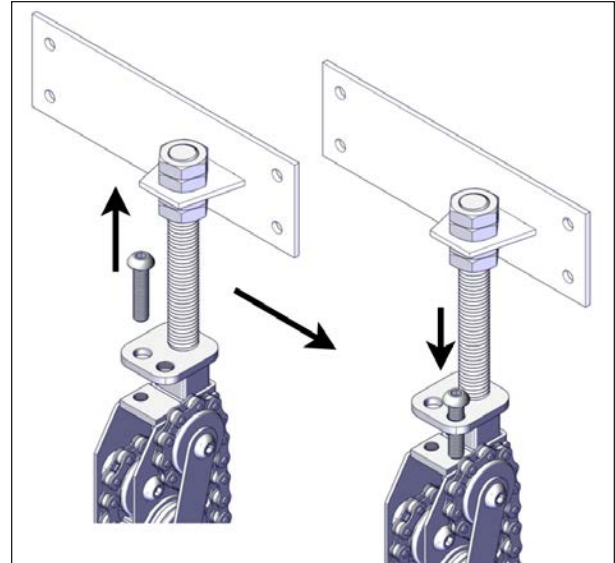

FIGURE 81: JACK LOCKING SCREW REMOVAL
7. Once the U-frames are installed, the jack lock screw located at the top of non-motor side jacks can now be unlocked safely. Remove the M8 x 35 mm locking screw and reinstall it in the hole next to it so you don't lose it. Remove the screw on both non-motor jack. You can remove the red tags on the non-motor jacks see Figure 81.